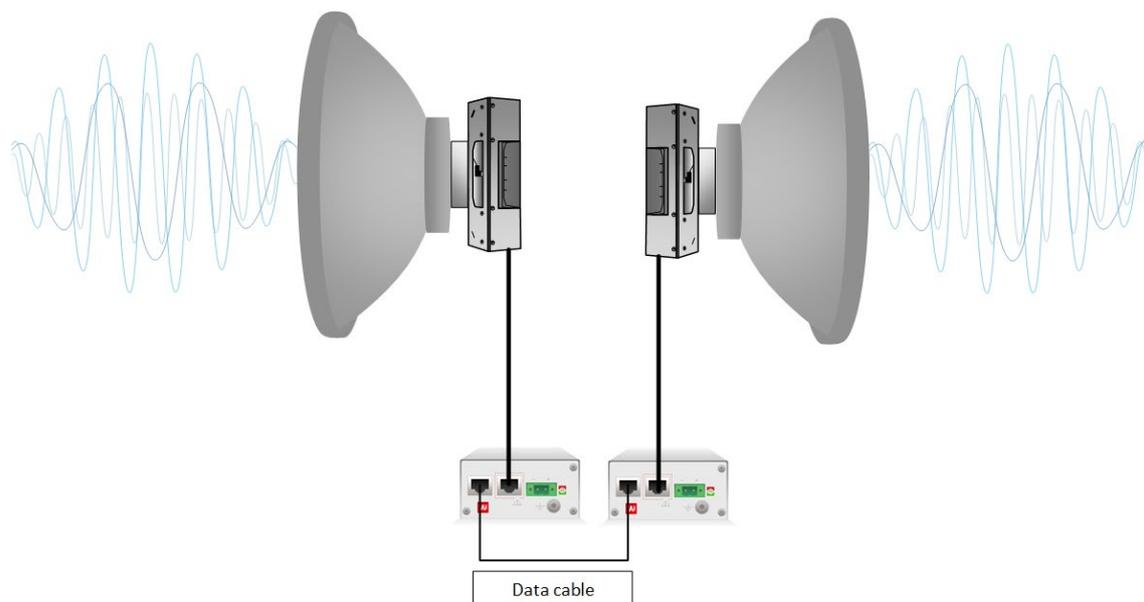

Figure 6-3 East/West (repeater) configuration using PoE injector
- Use Integra-E/E2/E3 radios with PoE injectors as a power source and data interconnection between PoE injectors, but there will be a limitation to only reach speeds up to 1Gbps as electrical Ethernet interface only supports Gigabit Ethernet (*Figure 6-3*).